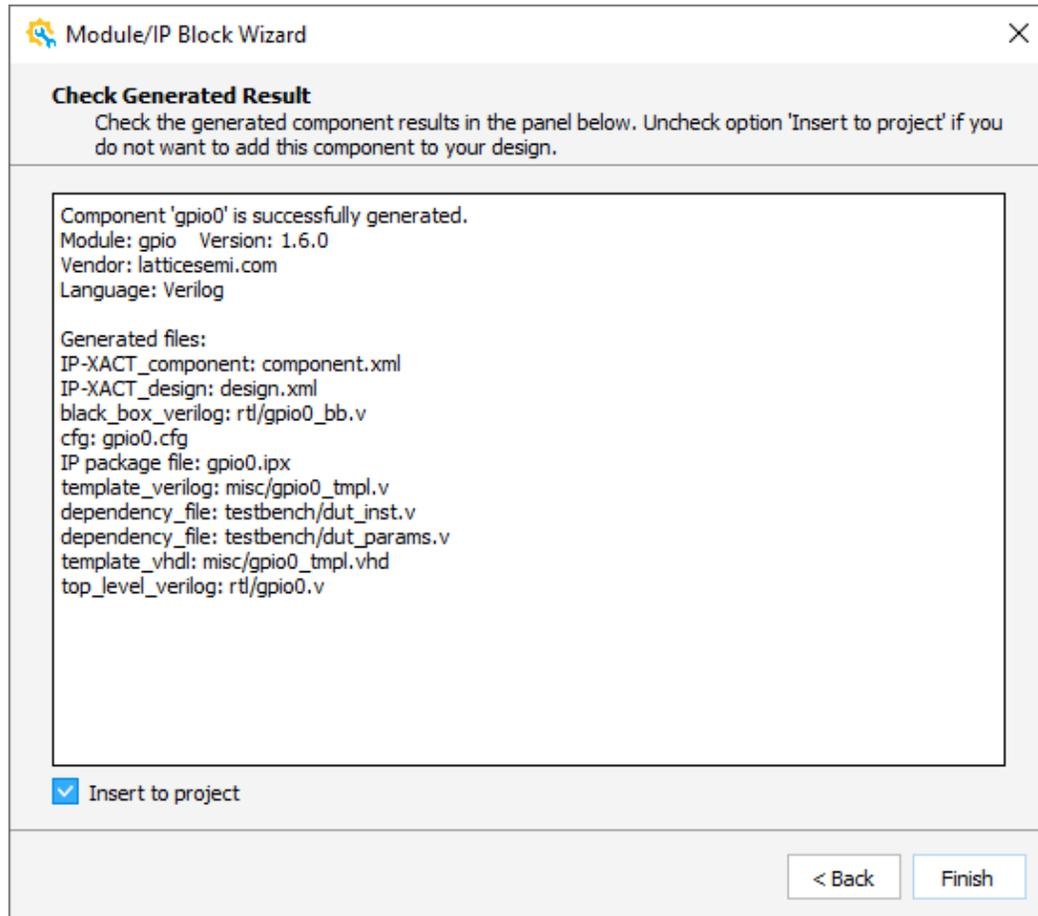
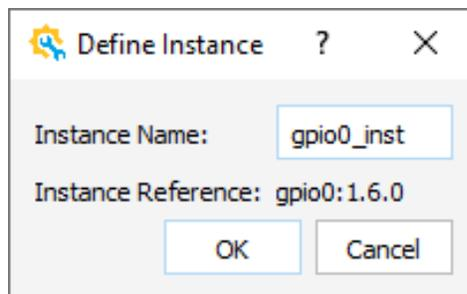

Figure 2.23. Module/IP Block Wizard – Check Generated Result
Figure 2.24. Design Instance Dialog Box
- Click **Generate**. Module/IP Block wizard shows the Check Generated Result page (Figure 2.23).
- Select **Insert to project** (Figure 2.23) at the bottom of the Check Generate Result wizard, so that a **Define Instance** dialog box pops up as shown in next step. Or, this dialog box does not appear.
- After selecting **Insert to project**, click **Finish** (Figure 2.23). The **Define Instance** dialog box opens (Figure 2.24).